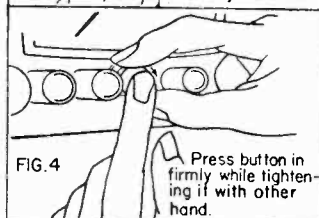

FIG 4 Press button in firmly while tightening it with other hand.
3. Hold button in with finger of one hand and tighten securely with the other hand. Release the button and tighten it further if possible. See Fig. 4.